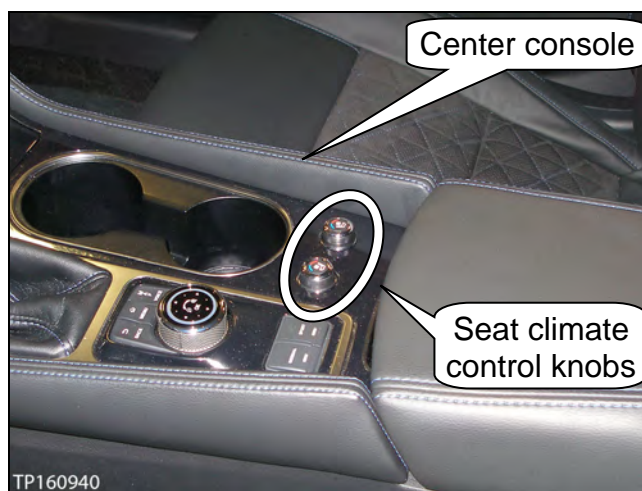

Figure 1
1. Determine if the noisy seat is equipped with climate control (see Figure 1).